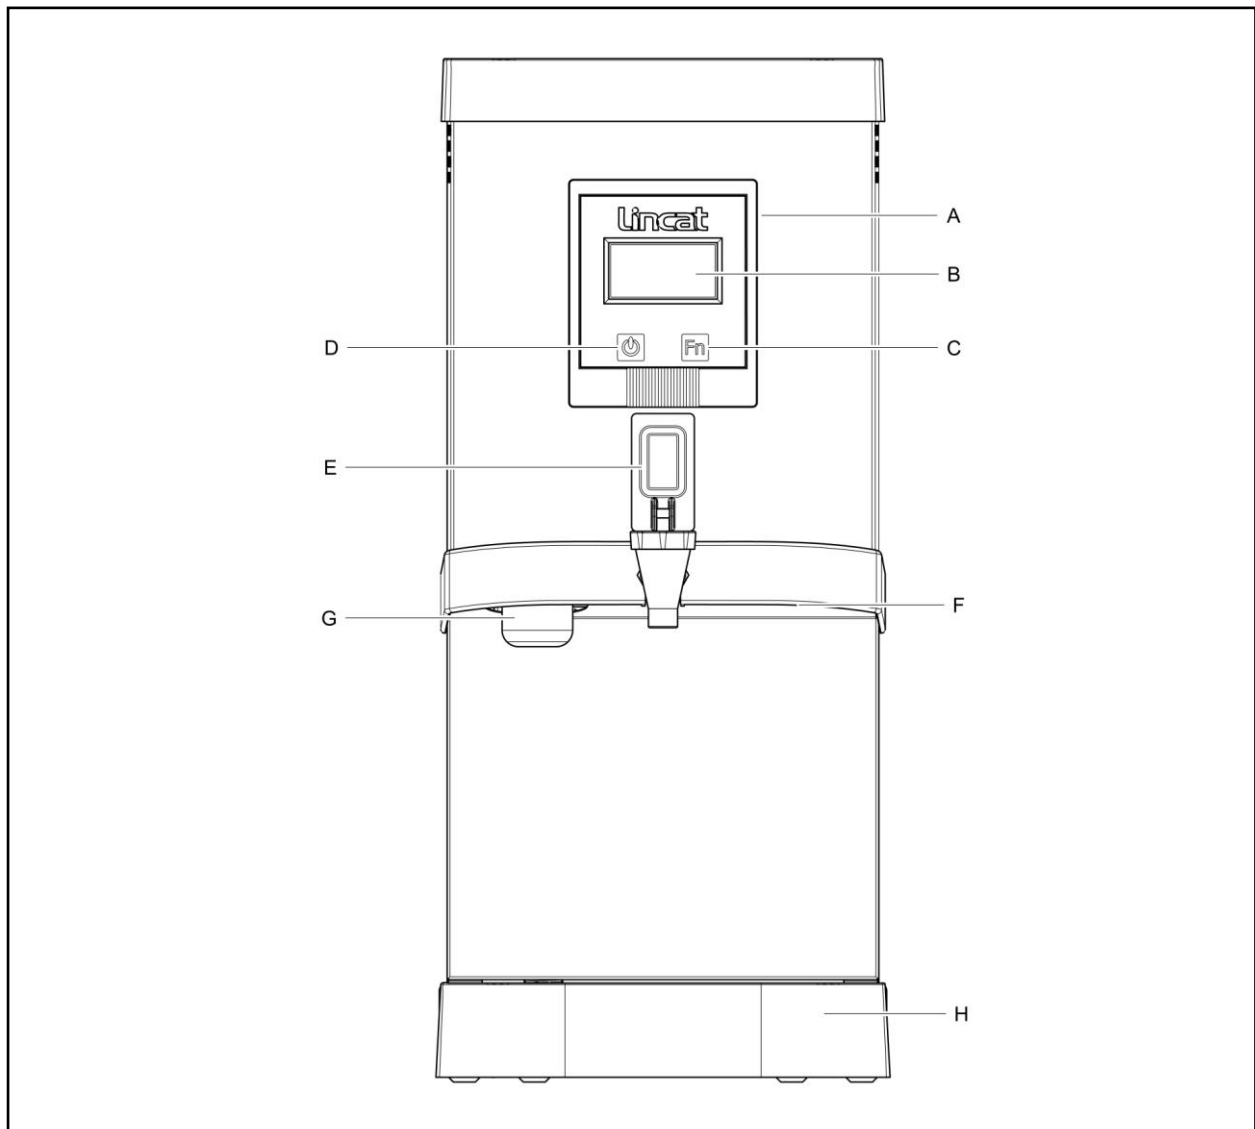

Fig 1
The serial plate is located on Fig 1 (F).
Consult Fig 1.